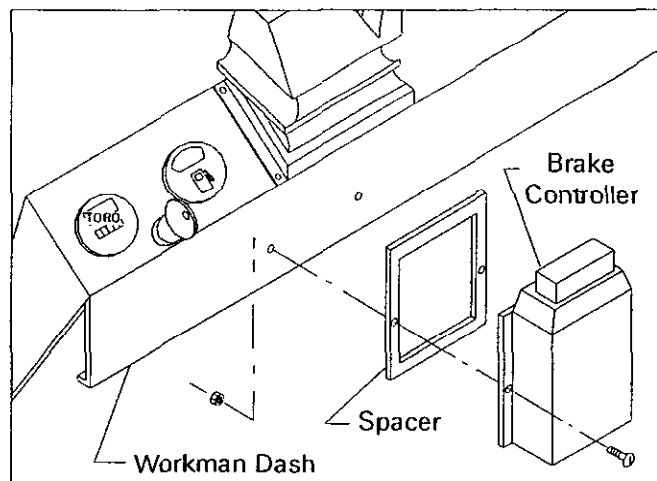

Figure 1
### INSTALL ELECTRIC BRAKE CONTROLLER (Fig 1, 2 & 3)
1. Mount brake controller and (92-4526) spacer to dash panel below steering wheel using the two holes provided. (See Fig. 1)